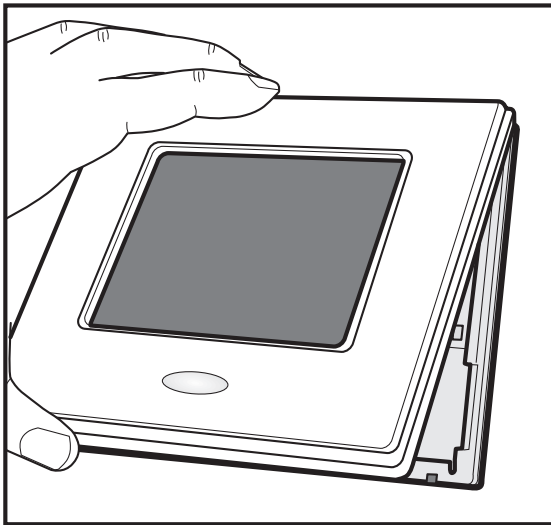

Fig. 7 — Display Module Installation
13. Reattach display module body to mounting base by first setting the module on at top of mounting base and then snapping the bottom corners of display module into place. See Fig. 7.